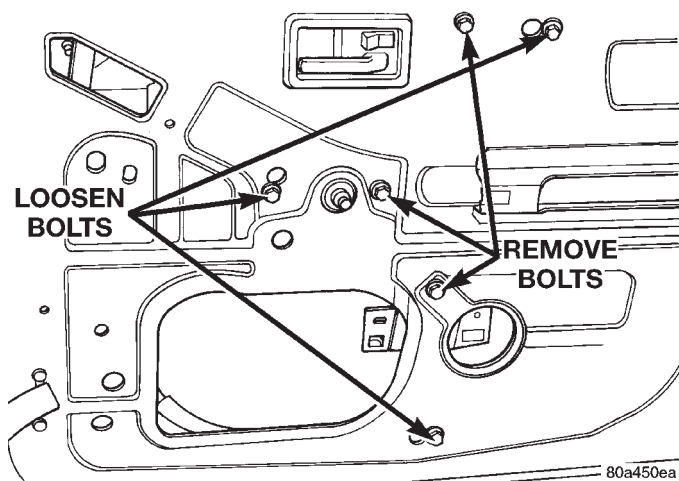
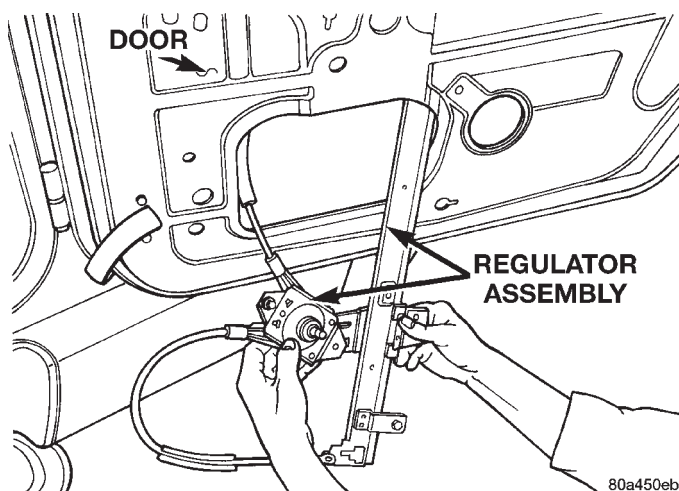

Fig. 33 Window Regulator Bolts
Fig. 34 Regulator Removal
- (1) Remove door trim panel.
- (2) Remove door glass.
- (3) Loosen the bolts in the slotted holes (Fig. 33).
- (4) Remove the bolts attaching the regulator to the door inner panel.
- (5) Lift the regulator upward to free it from the slotted holes in the door inner panel.
- (6) Lower the regulator and remove it through the access hole in the door inner panel (Fig. 34).